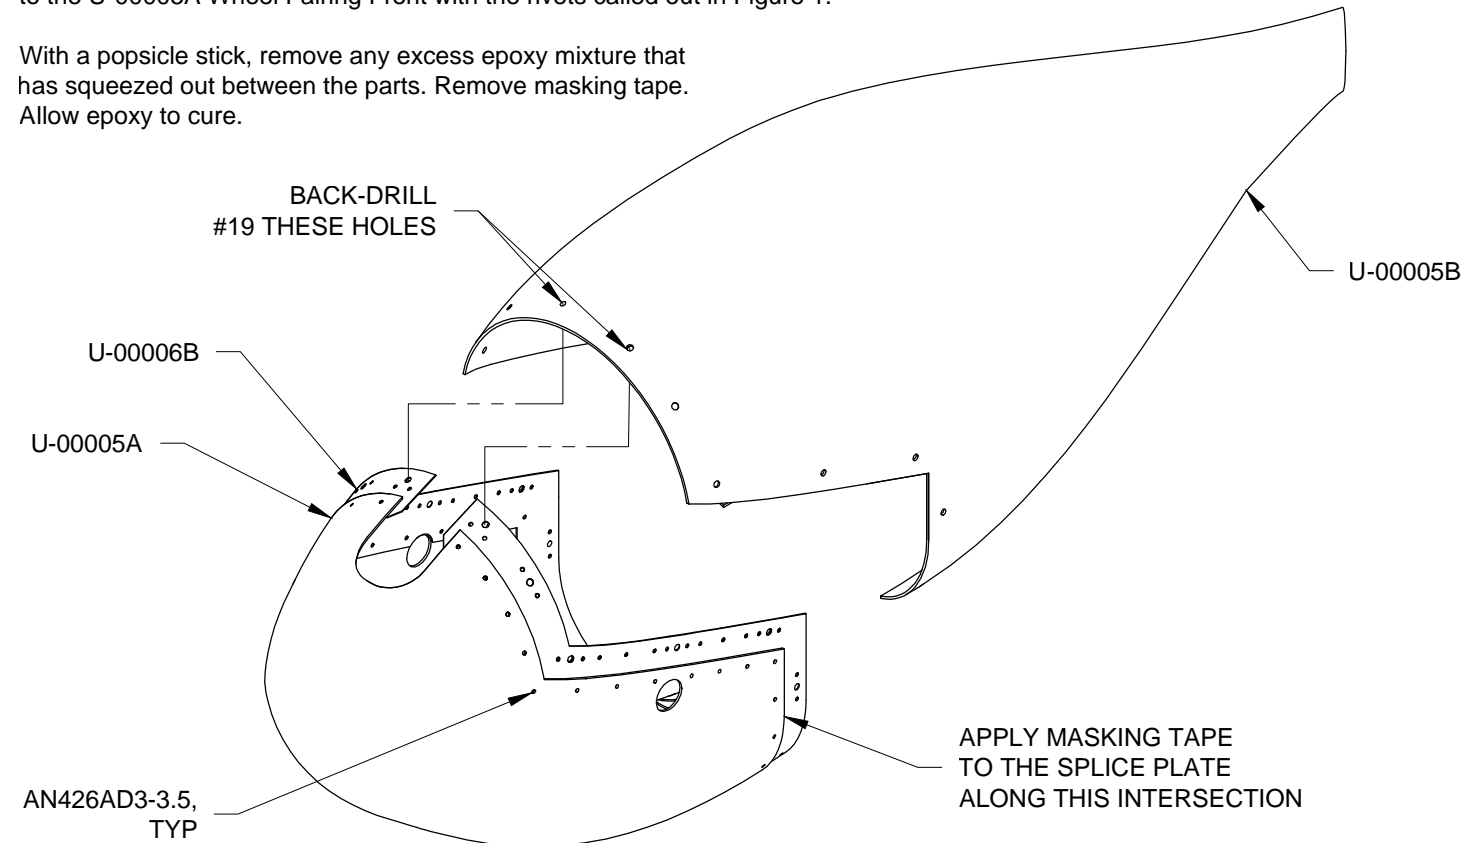

FIGURE 1: RIVETING SPLICE STRIPS TO THE WHEEL FAIRING FRONT
Step 6: While the epoxy mixture is still wet, cleco then rivet the U-00006B Splice Strips to the U-00005A Wheel Fairing Front with the rivets called out in Figure 1.